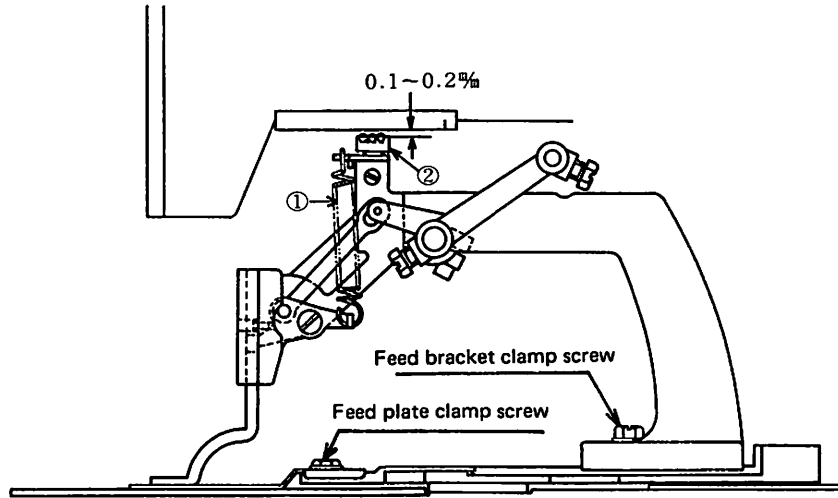

Fig. 47
(3) Adjusting the front and rear base-lines (Fig. 47)